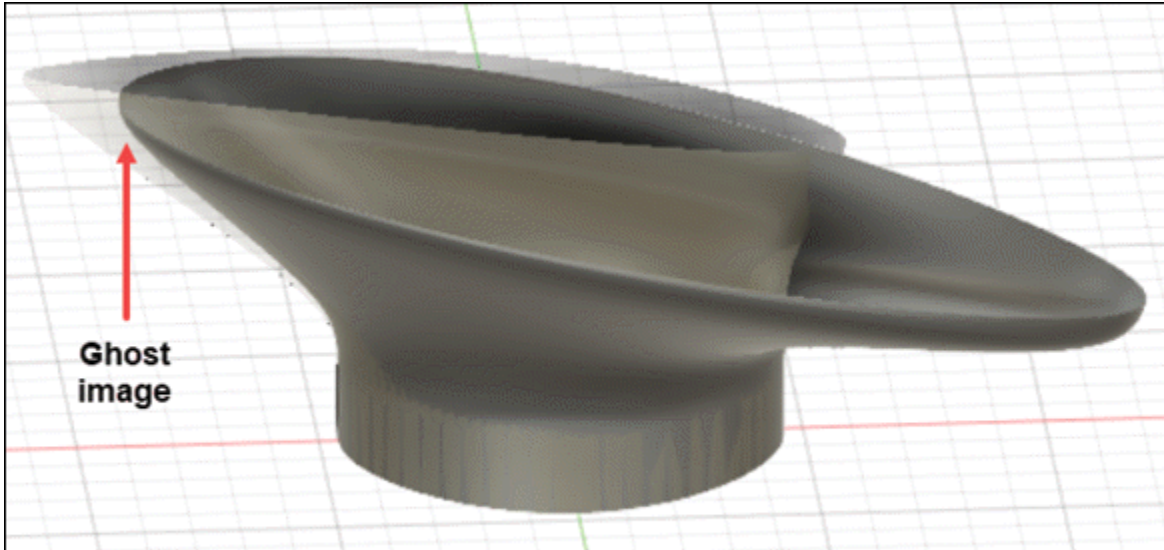

Figure-92. On selecting Show ghosted result body check box
- Selecting the **Show ghosted result body** check box will create a ghost image of model before a sculpting operation is performed on it. Note that the ghost image will be displayed until you are in sculpt mode; refer to Figure-92. When you exit the model after making changes then the ghost image will not be displayed.